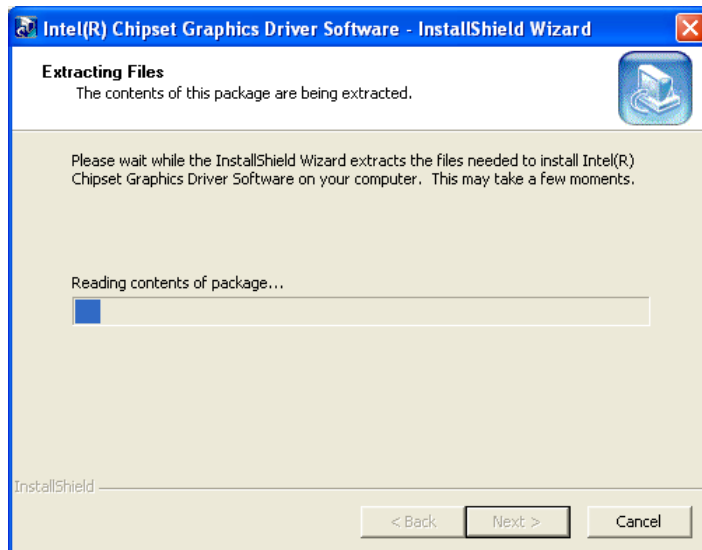

Figure 6-9: VGA Driver Setup Files Extracted
Step 4: The installation files are extracted. See **Figure 6-9**.